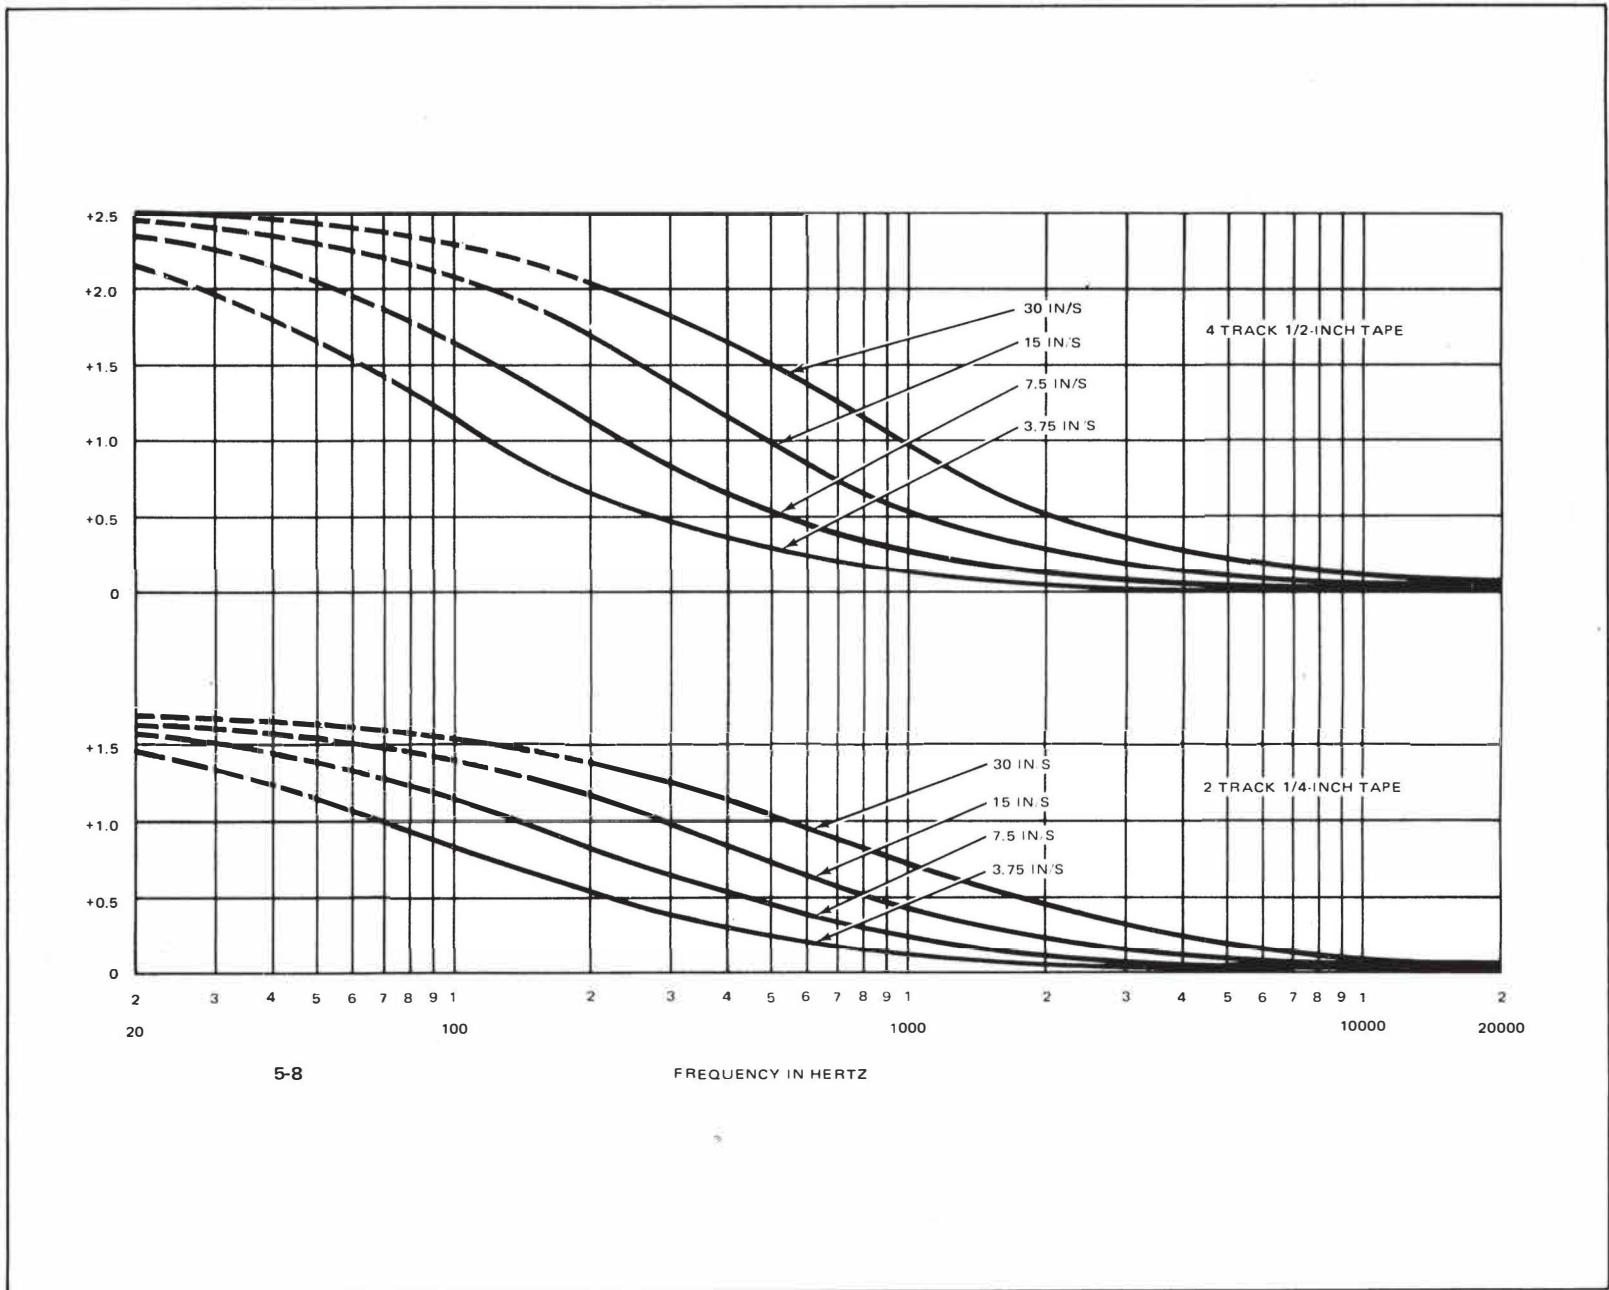

Figure 5-11. Relative Fringing Frequency Response Due to Fringing Effect
Therefore, if the equalization is correctly adjusted, the reproduce response when using a full-track alignment tape on either a 2-track, 1/4-inch tape system or a 4-track, 1/2-inch tape system should conform to the relative curves shown in Figure 5-11 within the tolerances given in Table 5-3. The curves given in Figure 5-11 display the *relative* fringing frequency response and *do not* include the fixed error due to the wider reproduce core width (as compared to the record head width).
The correction factors in Table 5-4 are the amounts by which the actual measured reproduce output from a full width alignment tape will exceed the reproduce output of the correct track width recorded to the same fluxivity. The table includes the fixed error due to the wider reproduce core width and the relative fringing error (shown in Figure 5-11) for frequencies of 500 Hz, 700 Hz, and 1.0 kHz. For example, when reproducing the 700-Hz, 185 nWb/m tone on an Ampex 15 in/s full-width alignment tape on a 2-track, 1/4-inch tape system, the output (as read on an ac voltmeter) will be +1.14 dB higher (Table 5-4) as compared to reproducing and alignment tape that
0.58 dB - relative fringing frequency response due to fringing error effect at 700 Hz and 15 in/s (Figure 5-11).
*The amplitude correction factors shown in the table are the sum of the values shown in Figures 5-11 for the frequencies shown in the table, and the fixed errors due to wider reproduce core width as follows: